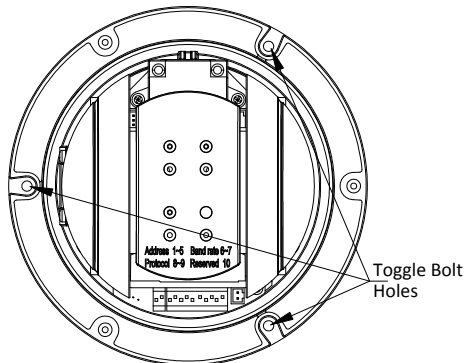

Figure 2-17 Toggle Bolt Holes
- 2). Insert the bolts into the screw holes on the dome as shown in Figure 2-17.